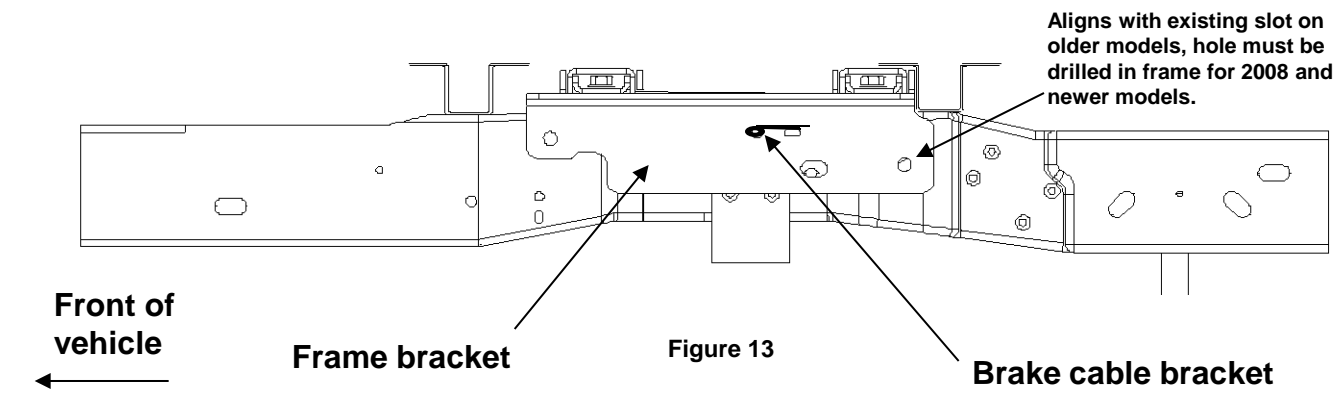

Figure 13
10. If brake cable bracket was removed in previous step, then re-locate brake cable bracket to rail bracket through hole given in the frame rail bracket using the original brake cable bracket hardware, tighten brake cable hardware with a wrench (**Figure 13**). Do not attempt to re-attach brake cable bracket through chassis rail.